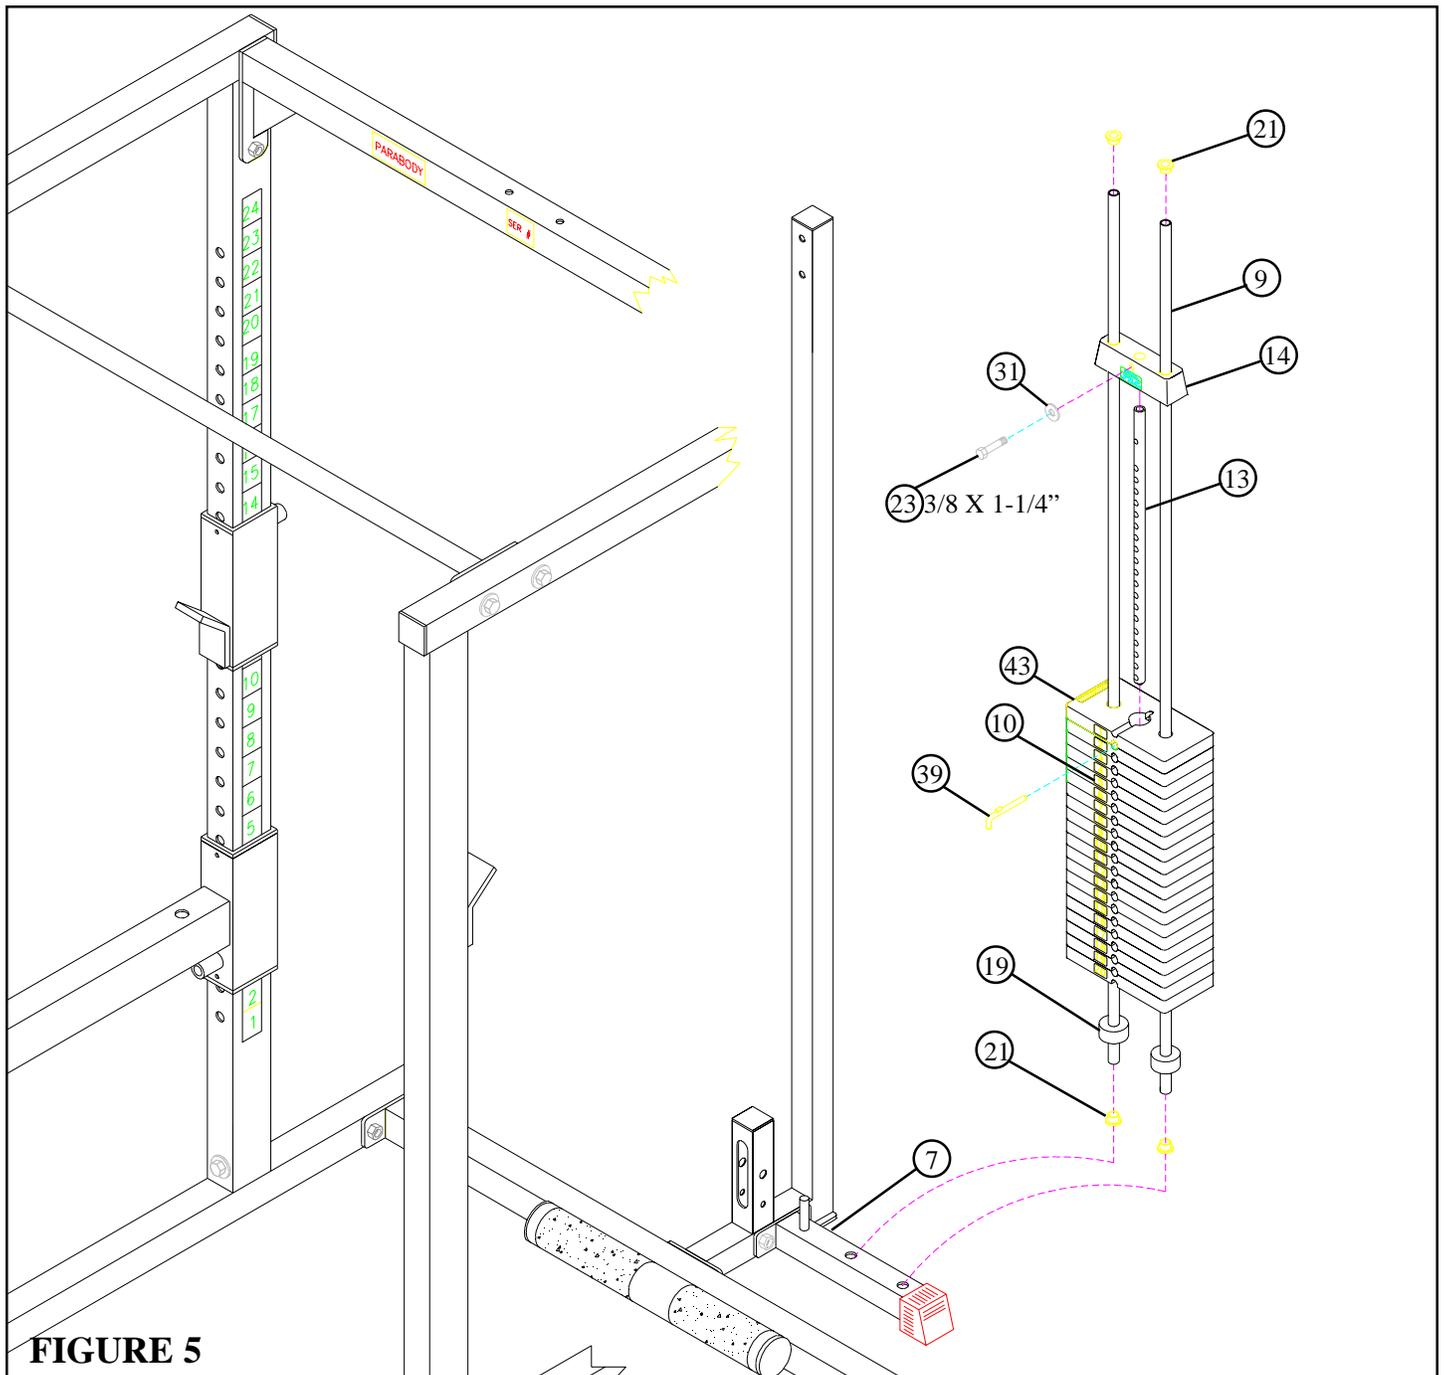

FIGURE 5
- Insert four CAP PLUGS (21) into the bottom end & top end of the two GUIDE RODS (9) as shown in FIGURE 5.
- Securely assemble the WEIGHT STACK SHAFT (13) to the HEAD PLATE (14) using one 3/8 X 1-1/4" BOLT (23) and one 3/8" WASHER (31).
- Insert two GUIDE RODS (9) into the WEIGHT STACK BASE (7) as shown on FIGURE 5. (**NOTE: Lubricate GUIDE RODS (9) with silicon or teflon spray available at most hardware stores.**)
- Slide two WEIGHT STACK CUSHIONS (19) down over the GUIDE RODS (9).
- Using **EXTREME CARE** slide all twenty WEIGHT PLATES (43) down over the GUIDE RODS (9) on to the WEIGHT STACK CUSHIONS (19). Make sure that the keyholes of the WEIGHT PLATES (43) are all facing the right way.
- **CAREFULLY** slide the HEAD PLATE ASSEMBLY down over the GUIDE RODS (9) onto the WEIGHT STACK.
- Attach the WEIGHT STACK LABELS (10) to the WEIGHT STACK. Also insert the WEIGHT STACK SELECTOR PIN (39) into the first WEIGHT PLATE (43) of the WEIGHT STACK.